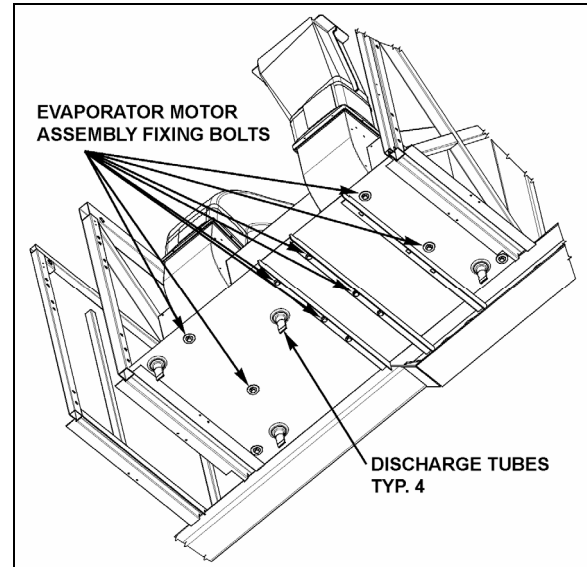

FIGURE 24: EVAPORATOR MOTOR ASSY FIXING BOLTS
7. From under the vehicle, remove the eight bolts retaining the evaporator fan motor support. Remove the complete unit from the evaporator compartment (Fig. 24 & 25).